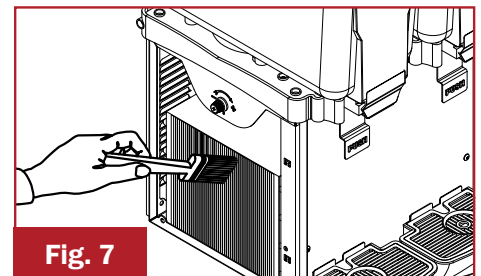

Fig. 7
1. After disconnecting the dispenser, remove panels and clean inside parts, especially condenser fins, with a brush (Fig. 7).